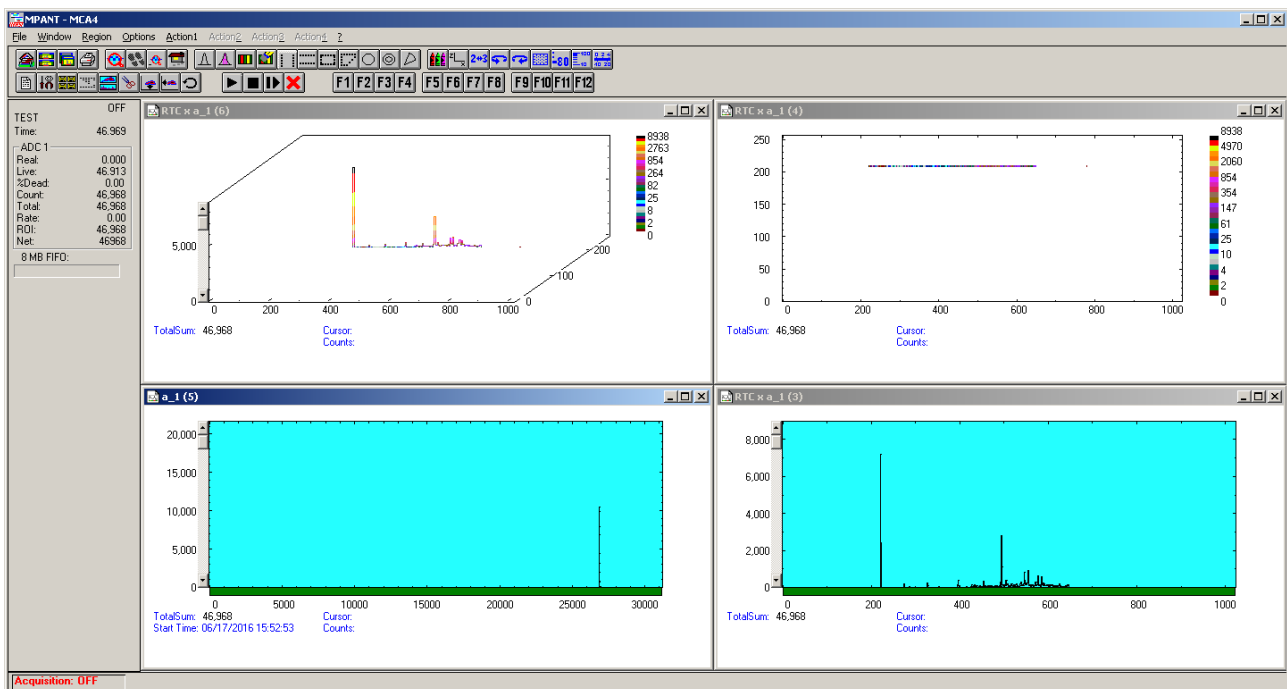

Fig. 2.27: Basic Time Spectra
In Fig. 2.27 the resulting spectra can be seen. Watching the map display (window (4)) amplitude variations show up as vertical lines whereas delay time variations result in horizontal lines. Window (6) is the corresponding three-dimensional view, window (5) the pulse height analysis and (3) the time spectrum. The acquisition will not start before a trigger signal is sent to the Gate 4 connector. The Real timer is reset by each new signal there, so the real time cannot longer be used for normalizing. The computer run time and live time may be used instead of it.